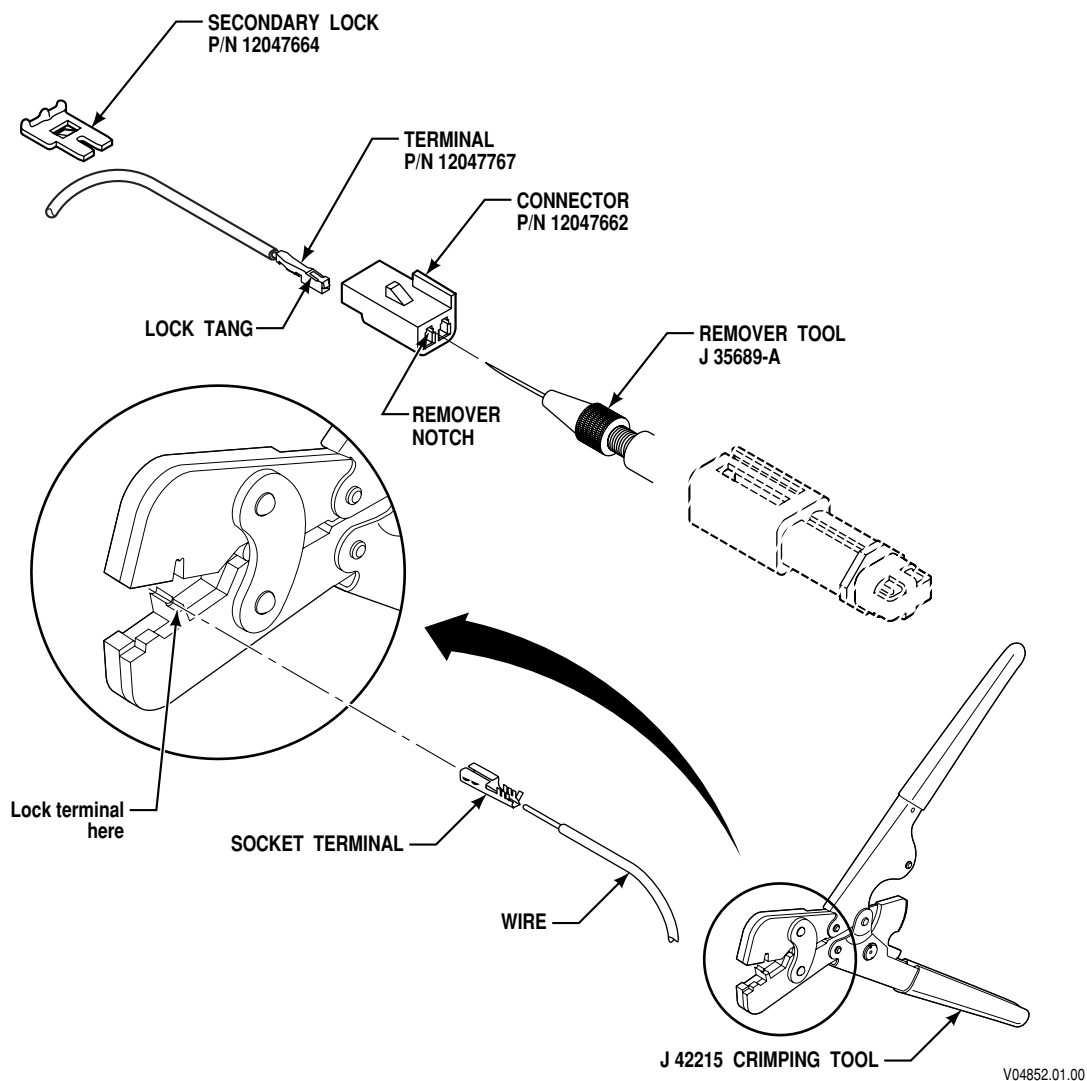

Figure E-4. Delphi-Packard Metri-Pack 150 Series Connector—Push-To-Seat
2. Insert needle end of terminal remover J 35689-A into the small notch in the front of the connector cavity of the terminal to be removed (Figure E-4).